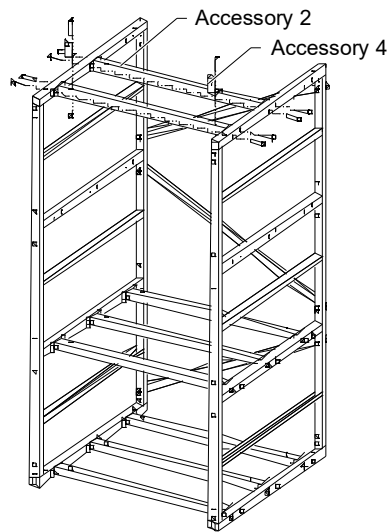

Figure 7 Installation procedure of accessory 2 and accessory 4
3. Install accessory 2 and accessory 4 according to Figure 7.